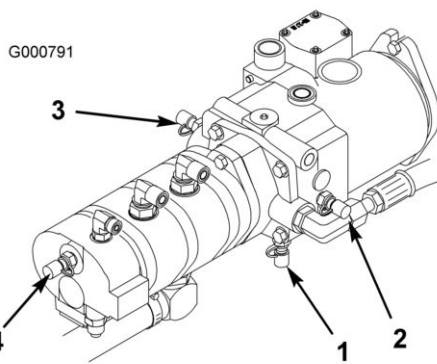

Figure 80
4. Test Port D is located on the bottom of the hydrostatic transmission (Figure 80) and is used to measure the charge pressure of the transmission.
5. Test Port E is used to measure traction forward pressure (Figure 80).
6. Test Port F is used to measure traction reverse pressure (Figure 80).
7. Test Port G is used to measure steering circuit pressure (Figure 80).